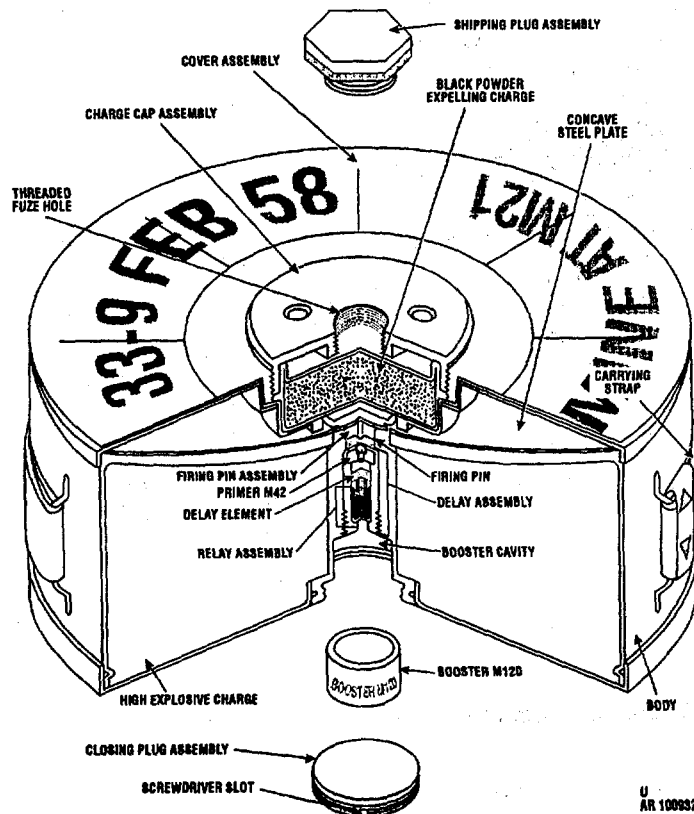
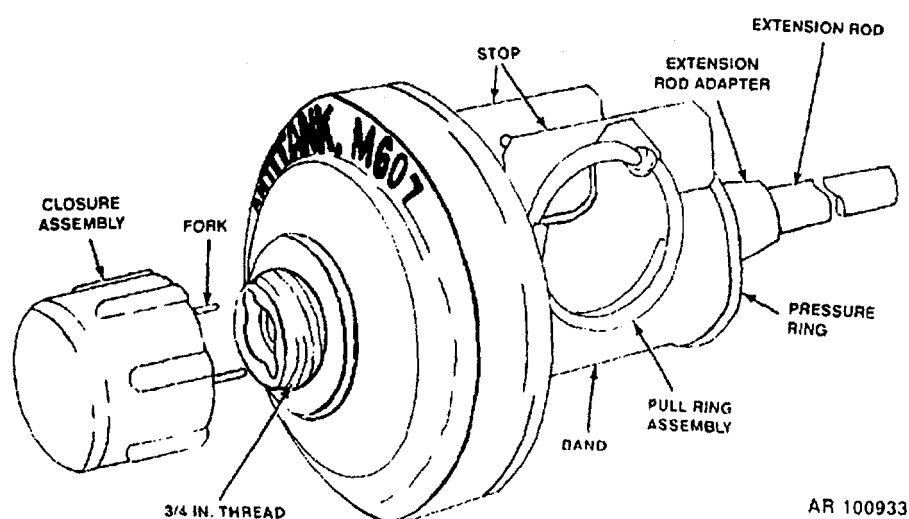
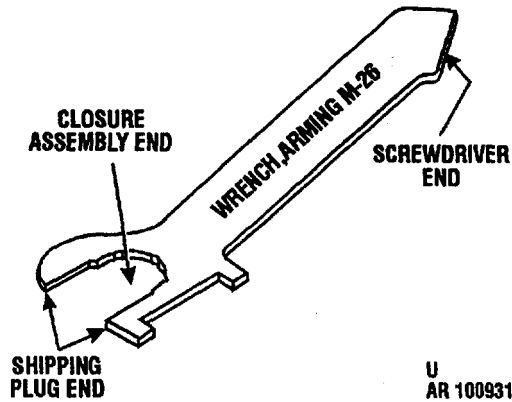

Figure 2-53. Cutaway view of mine, antitank: M21.
Figure 2-55. Removal of closure assembly from fuze M607.
Figure 2-56. Arming wrench M26.
2-9. Mine, Antitank: HE, Heavy, M21, with Fuze, Mine Combination, AT M607 (Fig 2-53)
- (3) Assure that cotter pin of the fuze pull ring assembly and the fuze closure assembly are securely in place (fig. 2-55).
- (4) Turn mine bottom up and, with screwdriver end of wrench M26 (fig. 2-56), remove closing plug assembly (fig. 2-53) by turning counterclockwise.
- (5) Inspect booster cavity for foreign material. Remove, if present.
- (6) Insert booster M120, washer side toward fuze, into booster cavity.
- (7) With wrench M26, replace closing plug assembly by turning clockwise until tight. Gasket of closing plug assembly should be against the booster.
- (8) For long term emplacement, coat threads of closing plug assembly with silicone grease G-697 or equivalent.
- (9) Turn mine bottom down.
- (10) With wrench M26, and using shipping plug end, remove shipping plug assembly from fuze hole cavity of mine.
- (11) Inspect for foreign material. If present, remove from hole.
- (12) For long term emplacement, coat charge gap fuze threads with silicone grease G-697 or equivalent.
- (13) With closure end of wrench M26, remove closure assembly from fuze M607 (fig. 2-55). Gasket on bottom of fuze should remain in place.